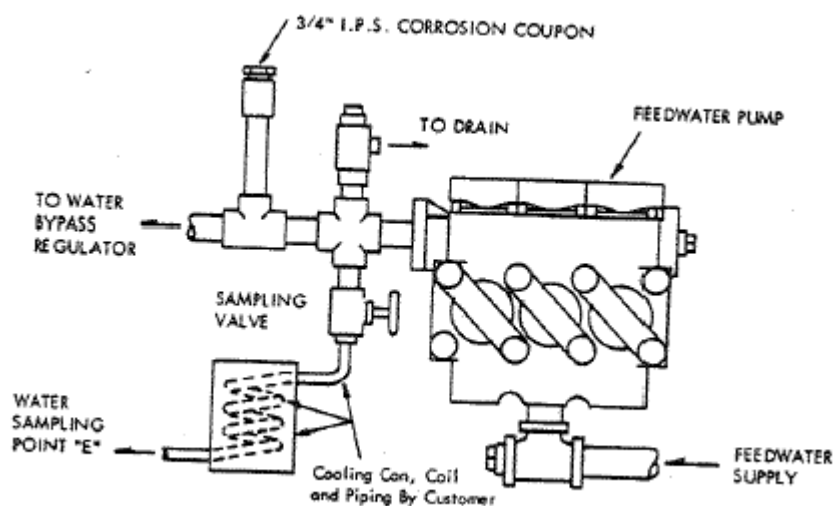

Figure 8, Typical Pump Piping
NOTE: Your water treatment consultant should recognize this boiler as a once-through type which means that the most important water is the water about to enter the heat exchanger coils, and not the concentrated water in the steam separator. A special valve has been placed on the boiler feedwater pump for obtaining a sample of this water for analysis. (See Figure 8)
9.4.5 As a further more positive check, corrosion coupons should be inserted in the boiler feedwater line and in the condensate return line. These can be obtained from your water treatment company. See Figures 8 and 20 for locations.